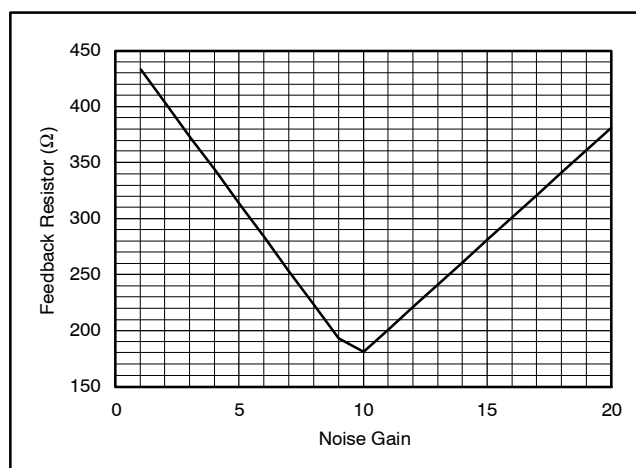

Figure 11. Feedback Resistor vs Noise Gain
As the desired signal gain increases, this equation will eventually predict a negative R_F . A somewhat subjective limit to this adjustment can also be set by holding R_G to a minimum value of 20Ω . Lower values will load both the buffer stage at the input and the output stage, if R_F gets too low, actually decreasing the bandwidth. Figure 11 shows the recommended R_F versus NG for $\pm 5V$ operation. The values for R_F versus gain shown here are approximately equal to the values used to generate the Typical Characteristics. They differ in that the optimized values used in the Typical Characteristics are also correcting for board parasitics not considered in the simplified analysis leading to Equation (3). The values shown in Figure 11 give a good starting point for design where bandwidth optimization is desired.